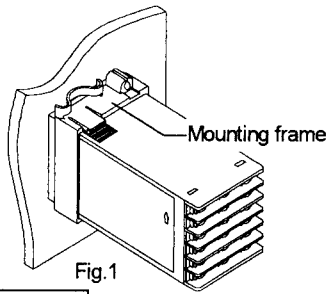
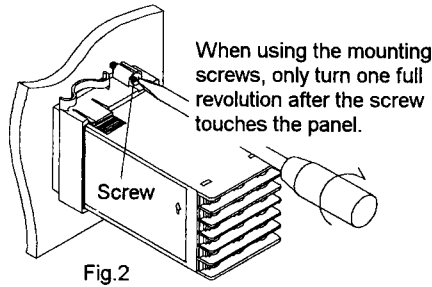

Fig.1
Fig.2
- (1) Prepare the panel cutout as specified in 2.2 Dimensions.
- (2) Insert the instrument through the panel cutout.
- (3) Insert the mounting frame into the mounting from the rear of the instrument.
- (4) Push the mounting frame forward until the frame is firmly secured to the panel. (Fig.1)
- The instrument can also be mounted by tightening screws (Fig.2). After inserting the mounting frame into the instrument according to the above procedures (Fig.1), fix the instrument to the panel by using the two screws. When tightening each screw, tighten it only one turn just after it touches the panel. Use the attached screws.